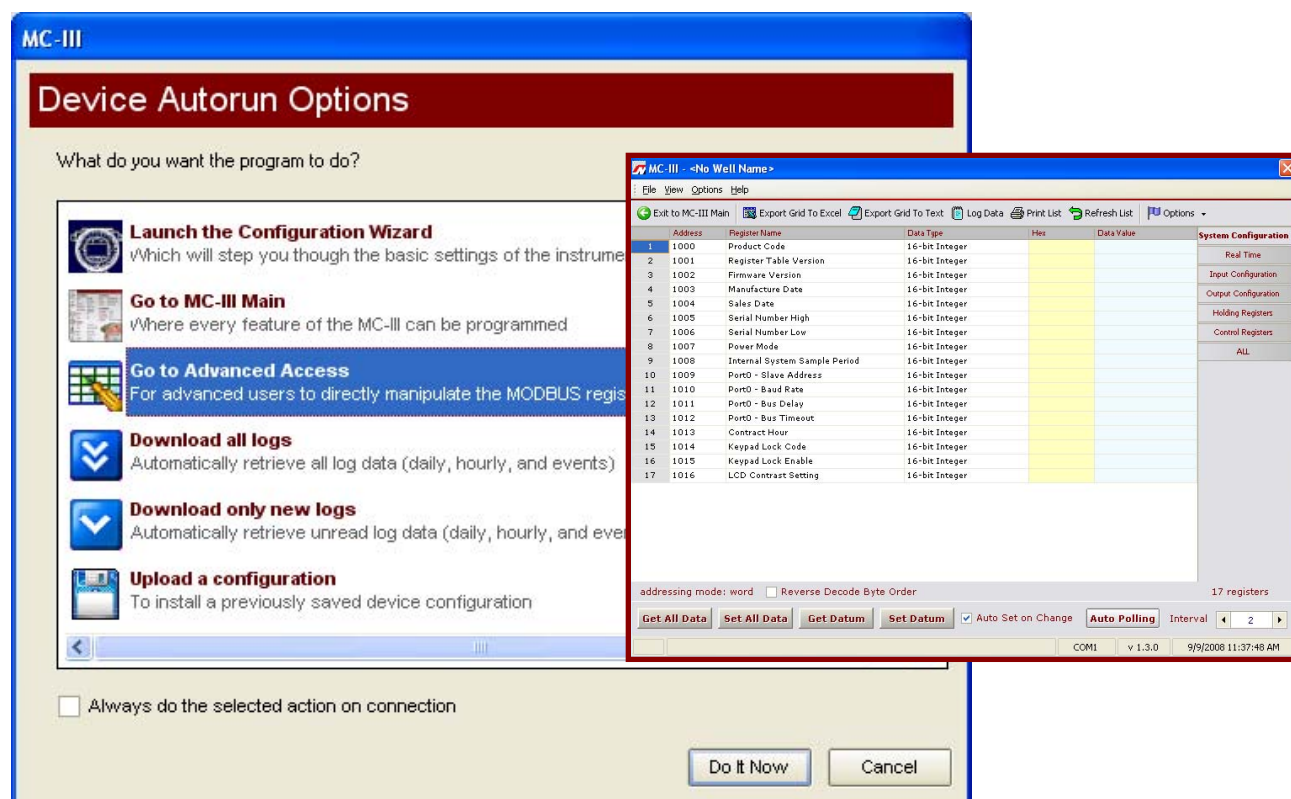

Figure 4.13—Advanced Access configuration option for system configurators and host programmers
- The Advanced screen (Figure 4.13, page 53) provides access to Modbus® registers that can be modified to change configuration parameters (recommended only for system configurators and host programmers).